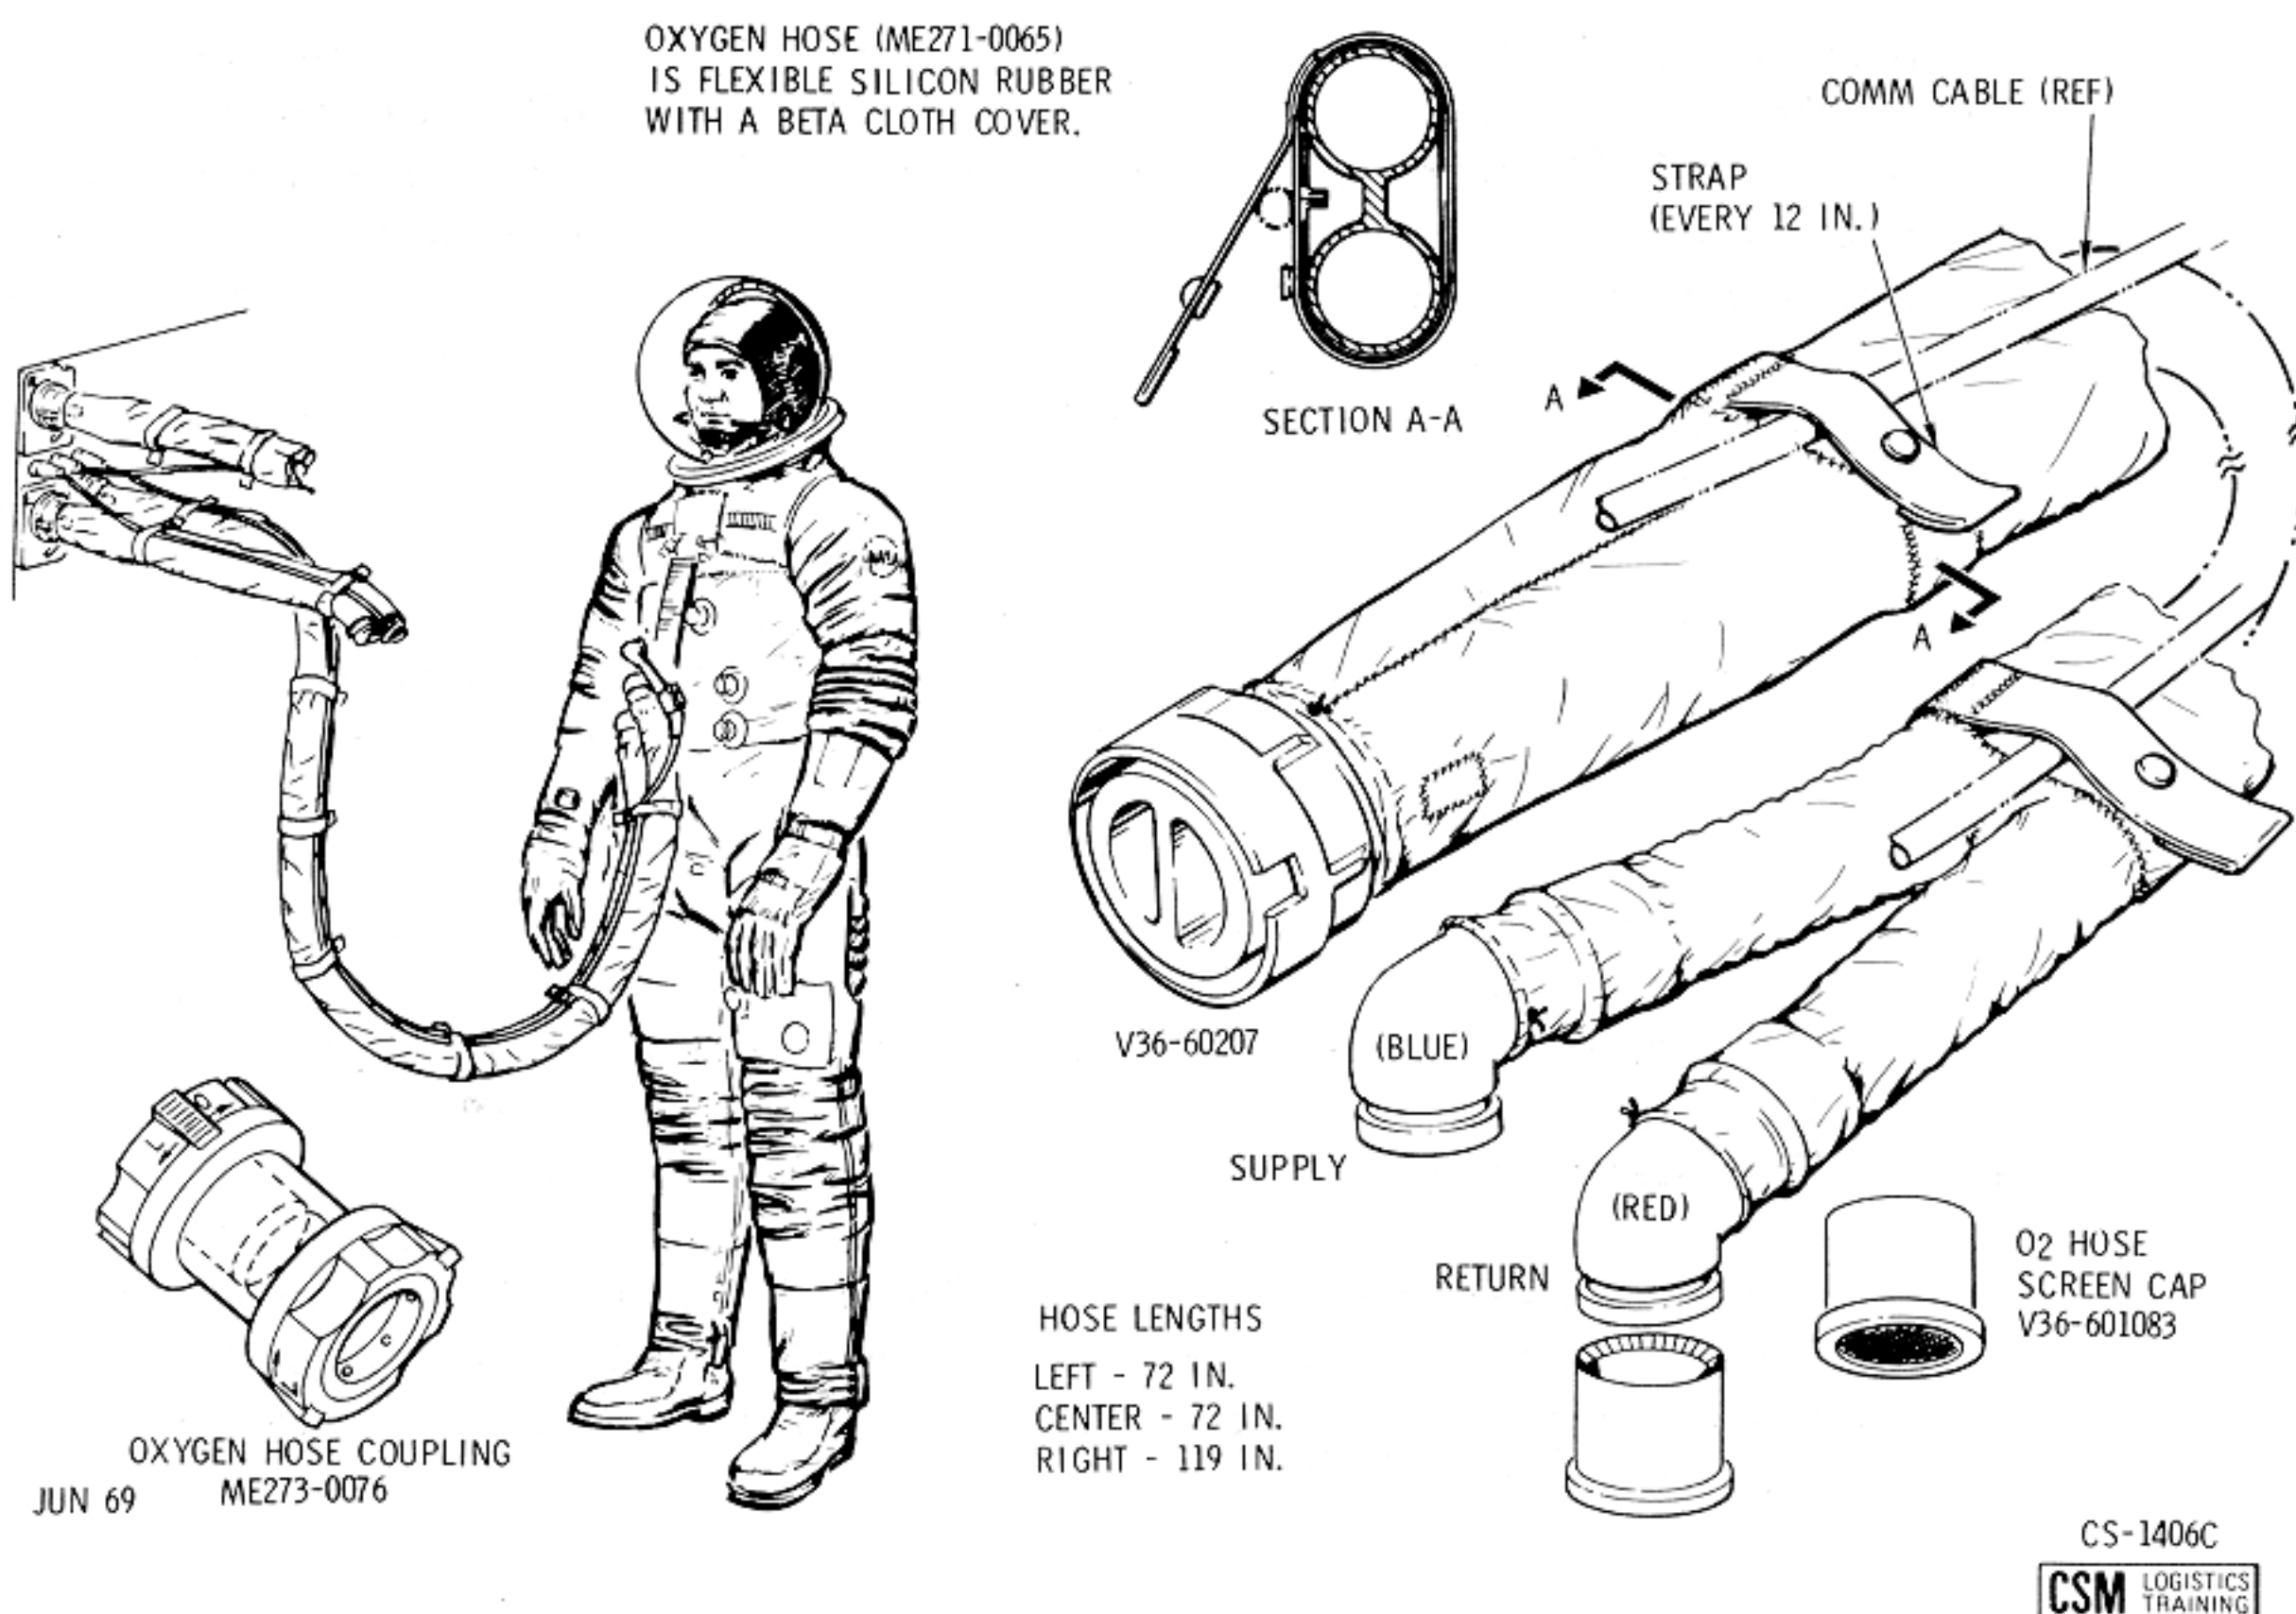

Figure 2.12-6. Oxygen Hose Assembly and Accessories
2.12.2.2.1 Oxygen Hose Assembly (Figure 2.12-6).
2.12.2.2.2 Oxygen Hose Coupling (Figure 2.12-6).
2.12.2.2.3 Oxygen Hose Screen Caps (Figure 2.12-6).